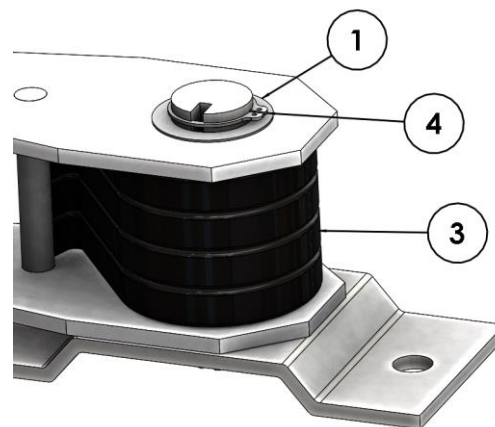

FIGURE 3.9: ASSEMBLING LOWER ARM
Slide the second arm plate onto pin, followed by another flat bushing (1) and a snap ring (4). See *Figure 3.9*.